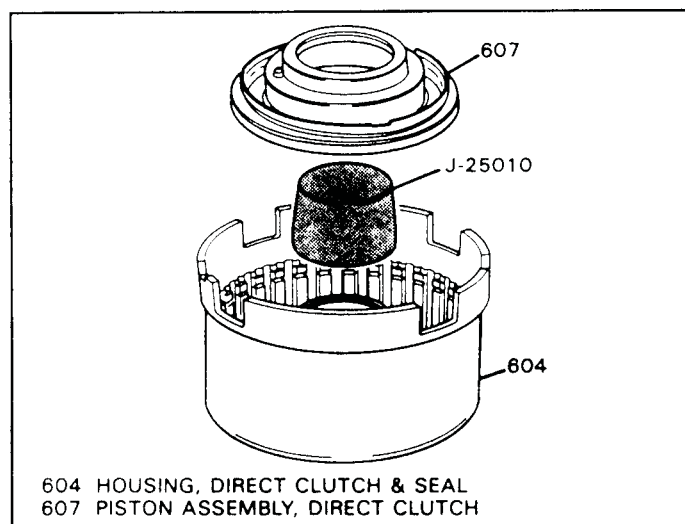

Figure 89
23. Install seal protector J-25010 onto direct clutch housing hub, as shown in Figure 89.